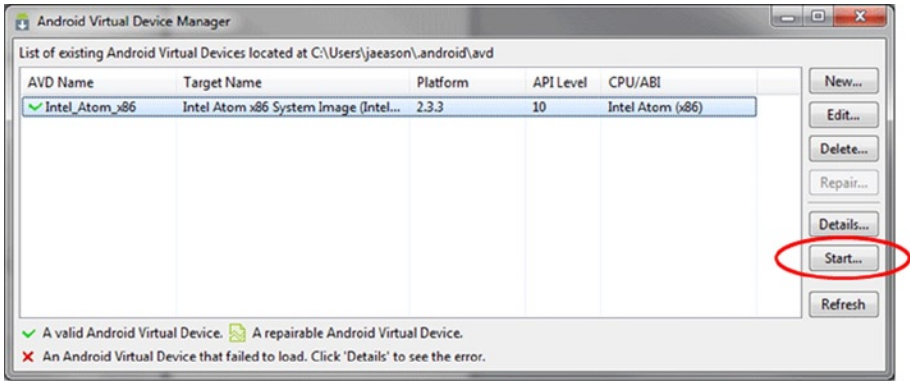

Figure 8-8. Starting an Android Virtual Device
11. The new virtual device should appear on the Android Virtual Device Manager. Select the new device and click the Start button, as shown in Figure 8-8.